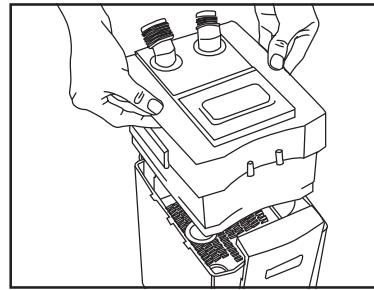

fig 22
- Lift the head of the filter (fig.22).